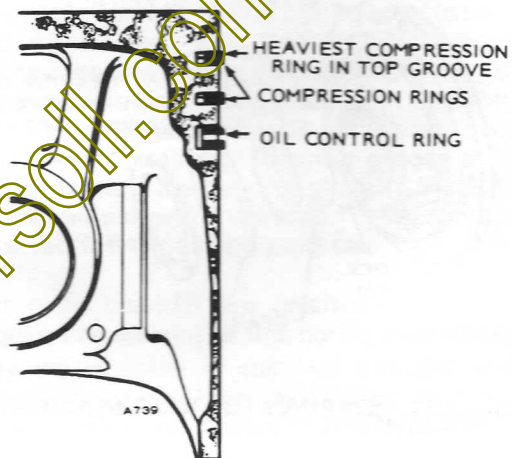

FIGURE 35. PISTON RINGS
3. Install the rings on the pistons starting with the oil control ring (Figure 35). Use a piston ring spreader to prevent twisting or excessive expansion of the ring. Compression rings have a dot or the word "top" on one side of the ring to indicate which side faces the top of the piston. Unmarked piston rings can be installed either way. The oil control ring has an expander; install the expander first and then close until the expander ends butt. The joint should be 180 degrees from the gap of that ring. The second compression ring has an expander also.